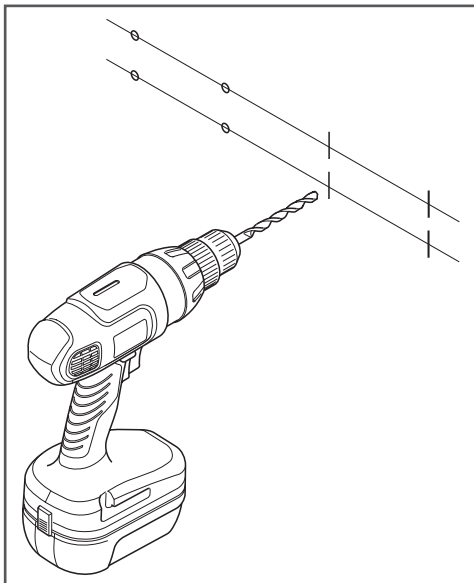

Figure 4
5. Drill out the marked holes using a drill with a 1/4" drill bit (Figure 4).